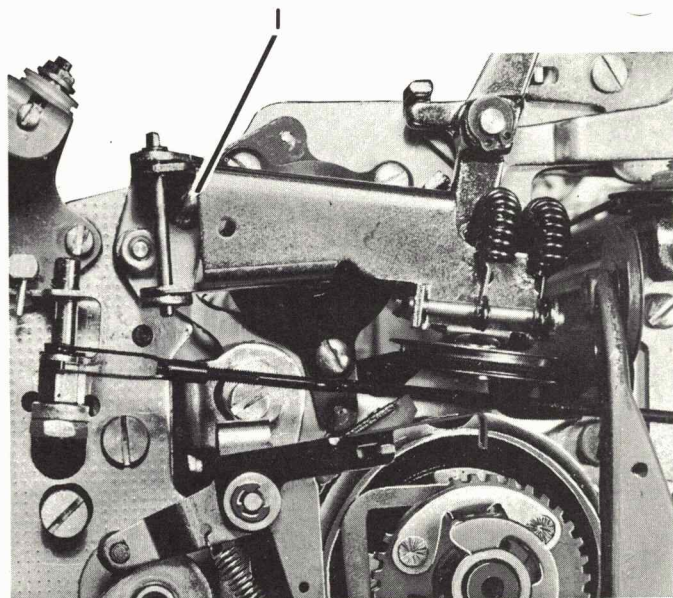

FIGURE 54. Carrier and Rocker Removal
- ✓10. Remove transport spring bracket screw (#1, Figure 54) (Early printers only)